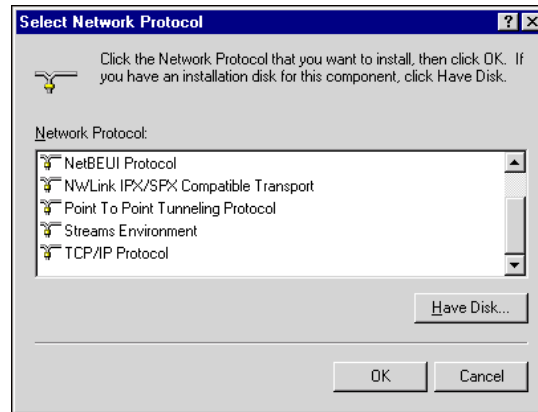

Figure C-0-2: Select Network Protocol dialog
- 6 If TCP/IP is not on the list of installed protocols, click **Add** to open the Select Network Protocol dialog (Figure C-0-2).